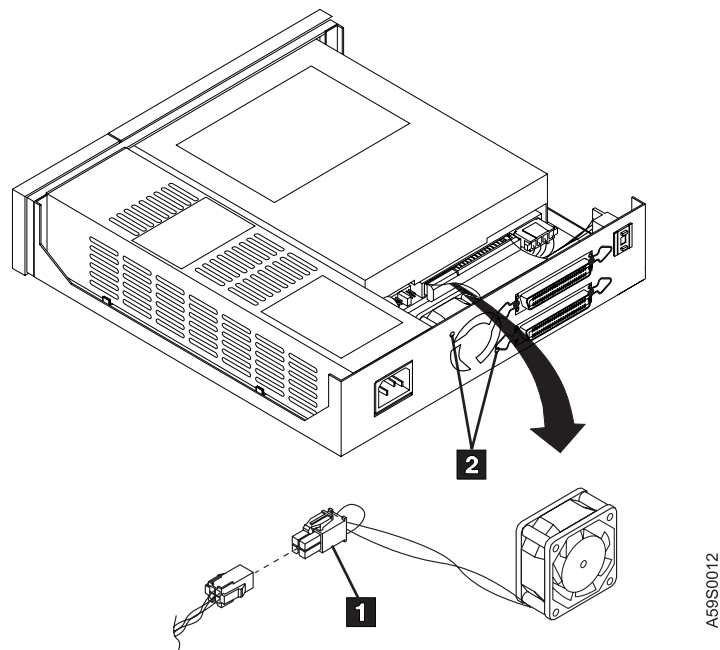

Figure 16. Removing and Replacing the Cooling Fan
2. Disconnect the power supply connector (J2) ( **1** in Figure 16) between the power supply and the cooling fan.